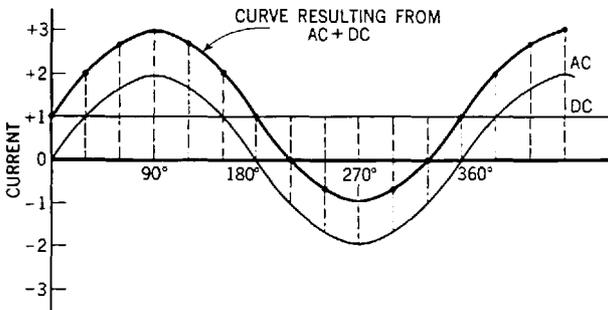
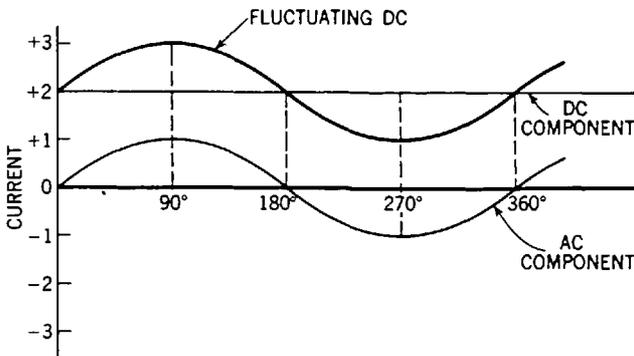

Fig. 32-21. Curve showing the result of adding alternating and direct currents.
Fig. 32-22. Curves showing how a fluctuating direct current may be broken down to its steady d-c component and its a-c component.
**Adding Alternating and Direct Current.** Alternating and direct currents may be added together. Assume that we have a battery and a generator connected in series, both supplying electric current to an external circuit. We can show the result graphically, as in Figure 32-21.
The curve of the combined alternating and direct currents will resemble the one shown in Figure 32-21 if the peak of the alternating-current curve exceeds the direct-current value. Where the direct current is greater than the peak of the alternating current, the combined curve takes on the form shown in Figure 32-22. The form of this combined curve will resemble a sine wave, but since the direct current is always greater than the alternating current, at no time will the curve go below the  $X$  axis. The result, then, is a *fluctuating direct current*.